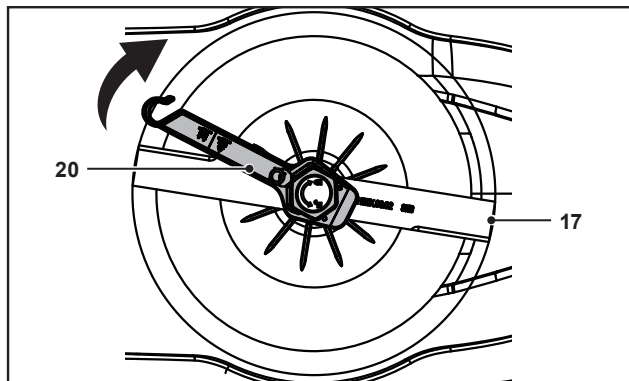

Fig. 7
4. Refit the cutting blade (17). The cutting blade (17) is reversible and can be fitted either way up.
5. Hold the cutting blade (17) firmly, and securely tighten the blade bolt to a torque of 10 N•m (Fig. 7).